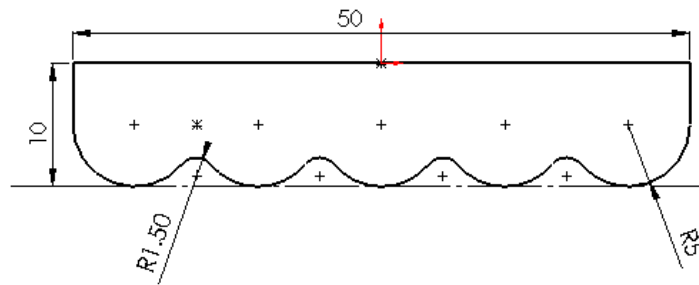

Figure 8-39 Sketch for the base feature
- Create the base feature of the model by extruding the profile to a given distance, refer to Figures 8-39 and 8-40.
2. Draw the sketch of the base feature on the **Front** plane and add the required relations and dimensions to the sketch as shown in Figure 8-39.